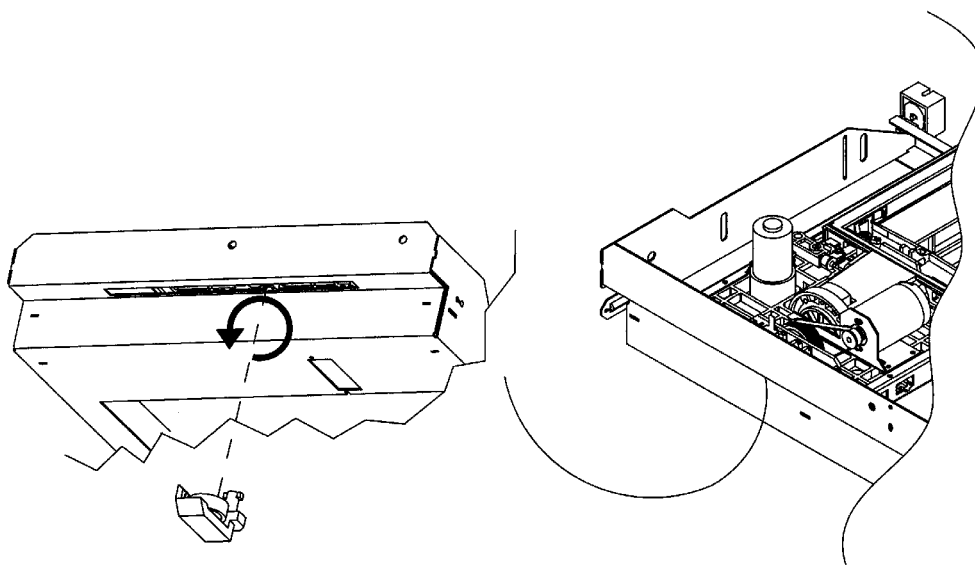

Figure 65: Removing the Translate Frame Capture Bracket
8. Rotate the capture bracket 90 degrees and pull the bracket down and out (see Figure 65).